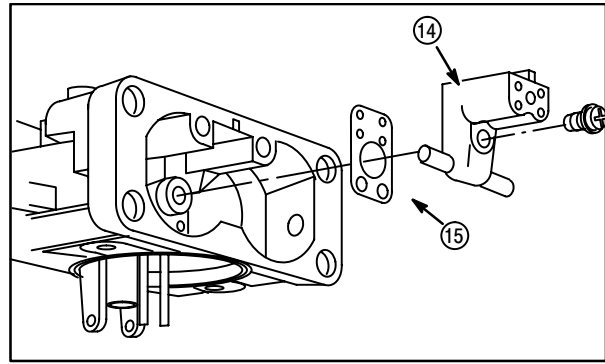

Fig. 121
10. Remove nozzle body (14), Fig. 121. Discard gasket (15).